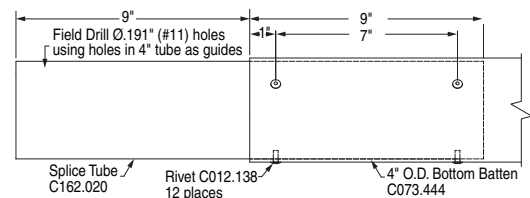
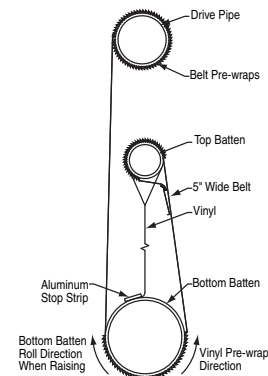

Figure 5
Figure 6
- ③ Assemble 4" bottom batten as shown on shop drawings using 3³/₄" OD x 18" splice tubes. (See Fig. 5).
- ④ Using a chalk line, mark along the length of the assembled 4" batten tube to be used as a guide when attaching the curtain.
- ⑤ Attach the square raw bottom edge of curtain fabric to the 4" bottom tube using adhesive strip. Make sure the curtain is flat, square and rolled straight.
- ⑥ Curtain fabric is 6"± wider than 4" bottom tube. Attach fabric so equal amounts of fabric overhang each end. Do not allow fabric to extend onto the heat seamed edging of curtain fabric. Cut 4" bottom tube if necessary.
- ⑦ Refer to shop drawing and mark finished height of curtain. The typical curtain height received is 20" longer than shown on shop drawing, allowing 1¹/₂± revolutions around pipe.
- ⑧ Roll curtain on tube to desired position. Attach stop strip in predrilled holes with self-tapping screws supplied. Installer should use a file to round the corners of the stop strip to lessen the possibility of curtain tears (see Fig. 6).